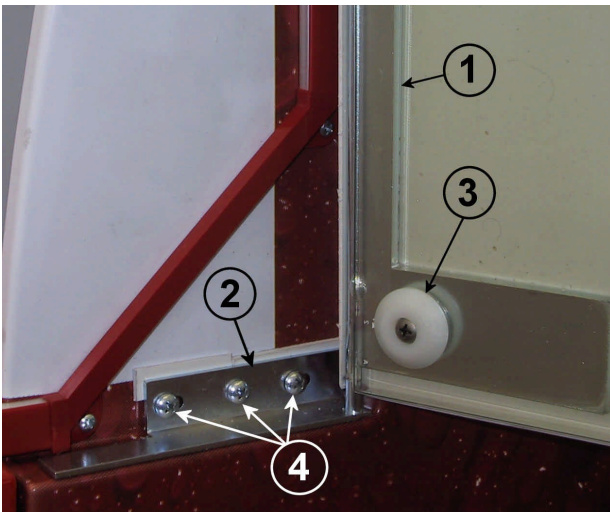
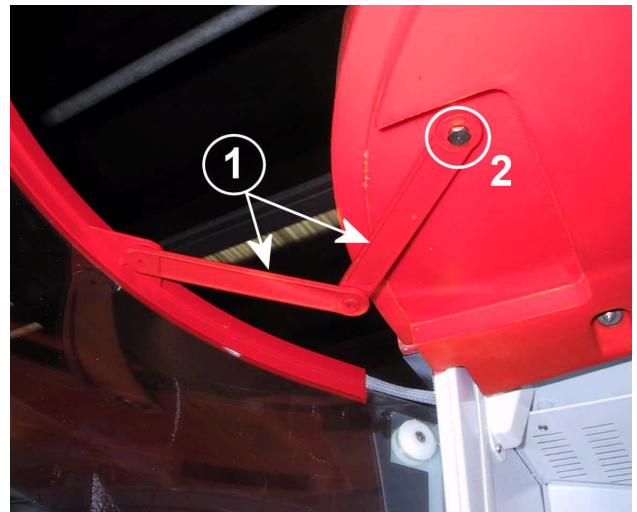
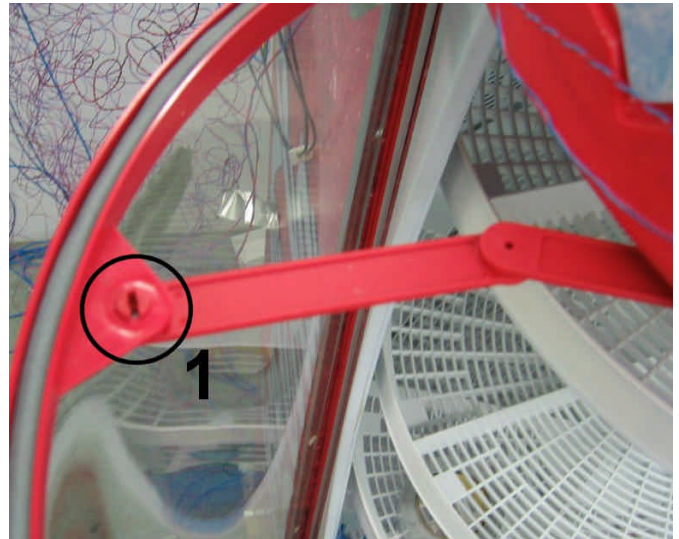

Figure 36
Figure 37
Figure 42
With reference to the fig. 36, the glass is fixed to a galvanized steel frame (55) (marked with "1") by screws and plastic bushes, marked with "3". The steel frame (55) is fitted to the lower hinge (14 and 15), marked with "2", and to the upper hinge (16 and 17), and is hidden by the plastic covers (23 and 24) stuck to the glass. Two brackets (3), marked with "1" in fig. 37 and fixed to the cabinet by the pin (51) marked with "2", serve to limit the door opening.
Subsequently remove the door brackets by removing the screw marked with “1” in fig. 42. Finally remove the lower hinge (14 and 15), unscrewing the screws marked with “4” in fig. 36. Be sure to hold the door so as to avoid its falling down.
In order to replace the door stop connecting rods it is necessary to unscrew the rods (51) (shown as "2" in Fig. 37) and press the plastic screw against the top of the door. With door opened remove the fixing pin (51), marked with "2" in fig. 37, and press the plastic screw marked with "1" in fig. 42, in order to remove it from its location.
4.1.7 FRONT GRILLE REPLACEMENT (35)